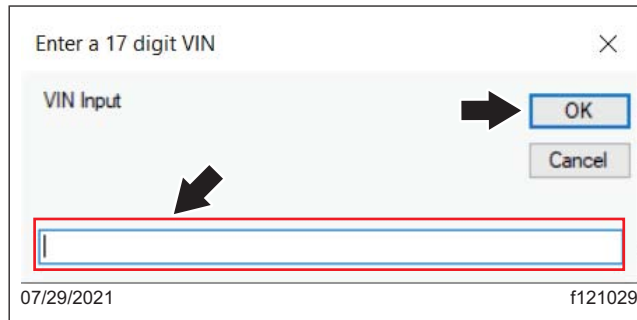

Fig. 11, VIN Input Window
7. If the vehicle identification (VIN) is not detected automatically, a window will appear requesting to enter the VIN. Enter the VIN, then select 'OK.' See Fig. 11.